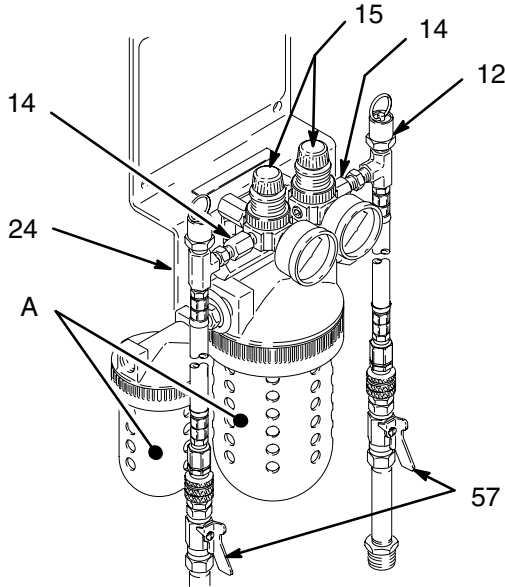

Fig. 16
1. Set both air regulators (15) to the lowest pressure needed to provide adequate dry air to the supply drums. A setting of 2 psi (14 kPa, 0.14 bar) normally provides enough dry air to the drums. See Fig. 16.
2. Open the drum shutoff valves (57). See Fig. 16.
3. To lower the pressure on the gauge, turn the regulator knob counterclockwise and pull up on the pressure relief valve (12) ring until the pressure on the gauge is just below the desired setpoint. Release the ring and then turn the knob to the desired pressure. See Fig. 16.
4. Check the pressure relief valves daily. To check, close the drum shutoff valves (57) and uncouple the air hoses (58) from the pin fitting. Increase the air pressure slowly. If pressure is not relieved by 5.5 psi (38 kPa, 0.38 bar), replace the valve. See Fig. 16.